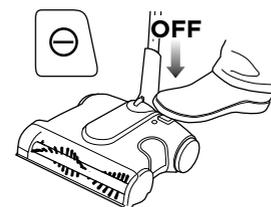

Fig. 10
- 1 Make sure the unit is off. If not, press the power button once to turn the unit off. **(Fig. 10)**